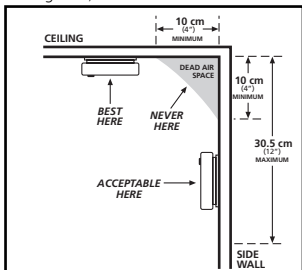

FIGURE 1
- When mounting an alarm on the ceiling, locate it at a minimum of 10 cm (4") from the side wall. (see Figure 1).
- When mounting the alarm on the wall, use an inside wall with the top edge of the alarm at a minimum of 10 cm (4") and a maximum of 30.5 cm (12") below the ceiling. (see Figure 1).
Modern caravans and mobile homes have been designed and built to be energy efficient. Install smoke alarms as recommended above (see Figures 1 and 2).
In older caravans and mobile homes that are not well insulated compared to present standards, extreme heat or cold can be transferred from the outside to the inside through poorly insulated walls and roof. This may create a thermal barrier which can prevent the smoke from reaching an alarm mounted on the ceiling. In such units, install the smoke alarm on an inside wall with the top edge of the alarm at a minimum of 10 cm (4") and a maximum of 30.5 cm (12") below the ceiling (see Figure 1).